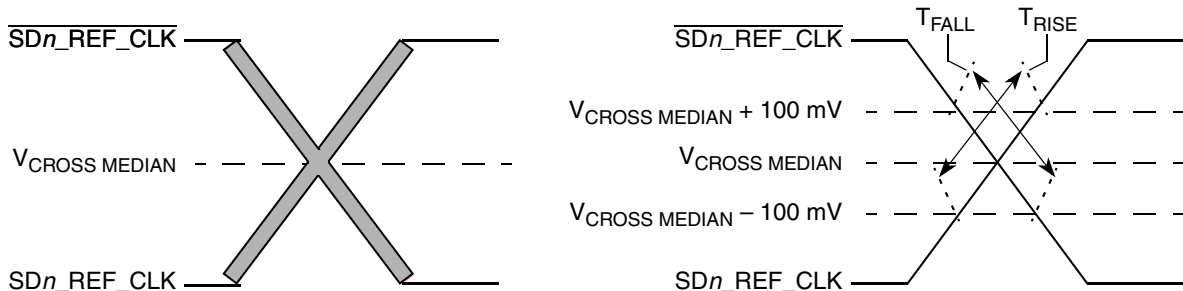

Figure 50. Single-Ended Measurement Points for Rise and Fall Time Matching
4. Matching applies to rising edge rate for SDn_REF_CLK and falling edge rate for $\overline{SDn_REF_CLK}$. It is measured using a 200 mV window centered on the median cross point where SDn_REF_CLK rising meets $\overline{SDn_REF_CLK}$ falling. The median cross point is used to calculate the voltage thresholds the oscilloscope is to use for the edge rate calculations. The rise edge rate of SDn_REF_CLK should be compared to the fall edge rate of $\overline{SDn_REF_CLK}$, the maximum allowed difference should not exceed 20% of the slowest edge rate. See Figure 50.